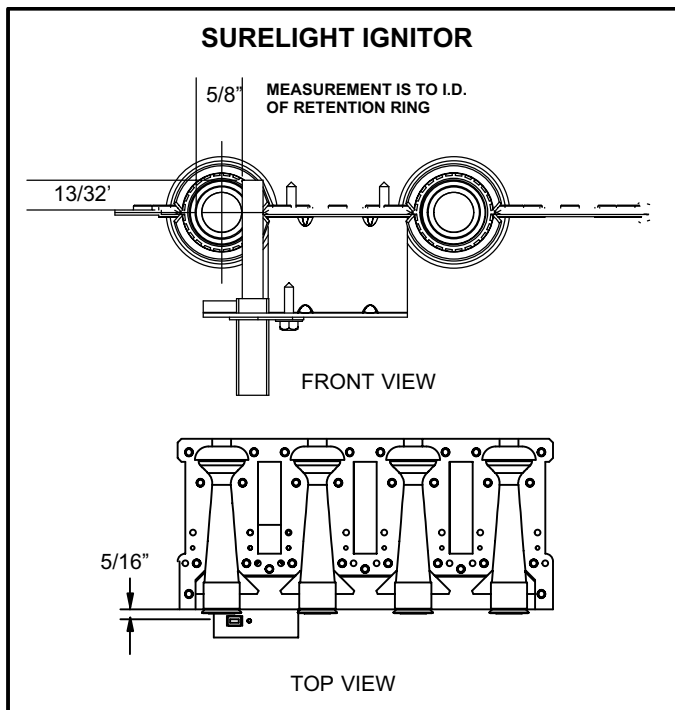

FIGURE 11
All GHR26-2 through -7 units are equipped with the Lennox SureLight ignition system. The system consists of ignitor (figure 11) and ignition control board (figure 12). The board and ignitor work in combination to ensure furnace ignition and ignitor durability. The SureLight integrated board controls all major furnace operations. Table 4 and 5 show jack plug terminal designations. The board also features two LED lights for troubleshooting and two accessory terminals rated at (4) four amps. See table 6 for troubleshooting diagnostic codes. Units equipped with the SureLight board can be used with either electronic or electro-mechanical thermostats without modification. The SureLight ignitor is made of durable silicon nitride. Ignitor longevity is also enhanced by voltage ramping by the control board. The board finds the lowest ignitor temperature which will successfully light the burner, thus increasing the life of the ignitor.